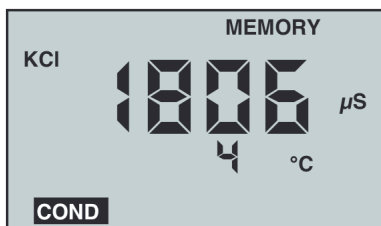

Figure 6
2. “MEMORY” will appear and the temperature display will be momentarily replaced by a number (1-100) showing the position of the record. Figure 6 shows a reading of 1806  $\mu\text{S}$  stored in memory record #4.